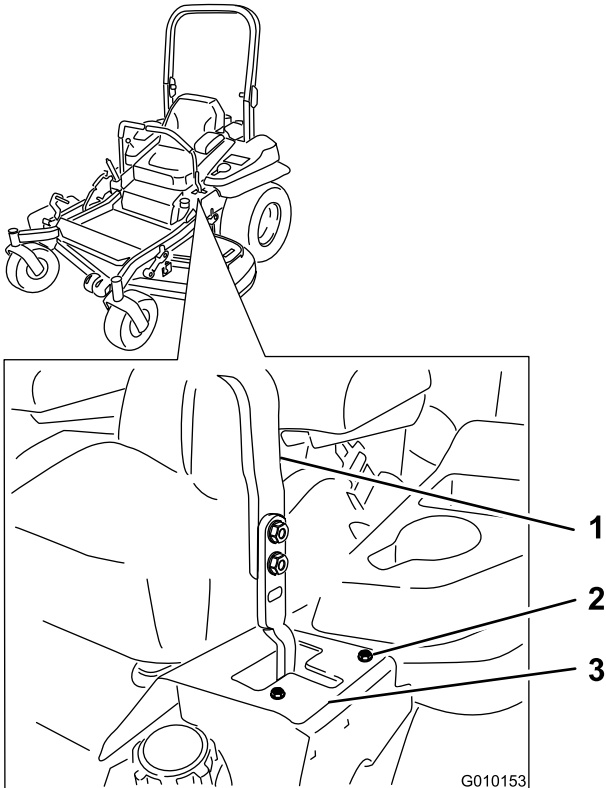

Figure 66
- If the machine tracks to the right, loosen the bolts and adjust the left stop plate rearward on the left T-slot until the machine tracks straight (Figure 66).
- If the machine tracks to the left, loosen the bolts and adjust the right stop plate rearward on the right T-slot until the machine tracks straight (Figure 66).
8. Tighten the stop plate (Figure 66).